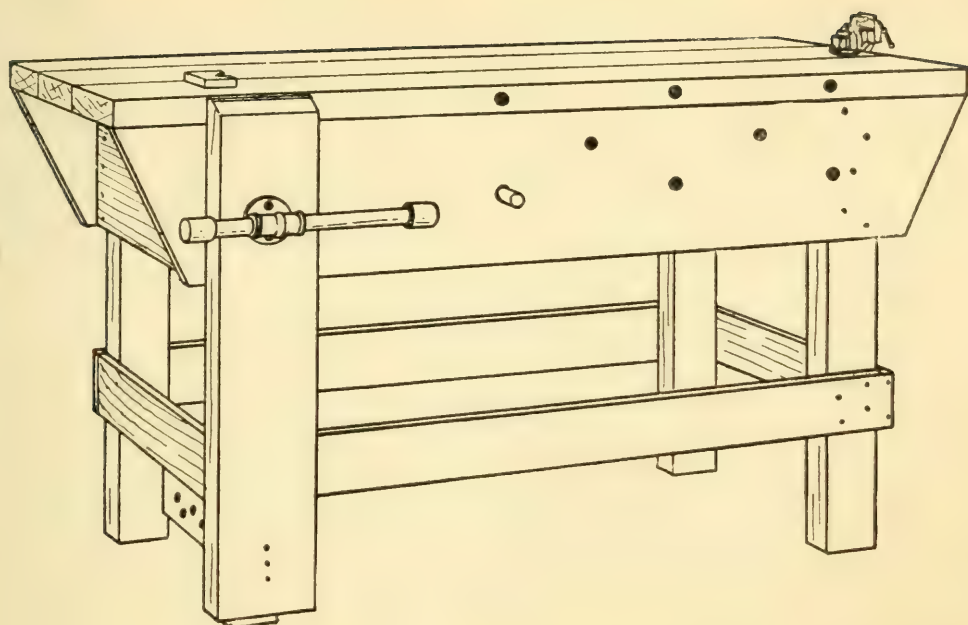

FIG. 1. — A Solid Work Bench.
Figure 1 shows
of any combination of widths that will make up a total of 24 inches, and these pieces should be fastened to cross-pieces *B* with screws. *Counter-sink* the screw-heads. Finish the ends of the bench by fitting pieces of 10-inch board between the aprons, as shown in Fig. 1.
this case it becomes necessary to set the socket into an extra block of wood (Fig. 5) and to spike this block to the back of the leg; otherwise, the jaw would not close entirely. Trim off the top of the jaw even with the bench top and bevel the outer edge (Figs. 1 and 4), then remove the temporary nails. Cut a peg to fit in the holes in the sliding strip, and whenever you use the vise, stick this peg into the proper hole to keep the bottom of the jaw from pushing in farther than the upper portion; the jaw must be kept vertical in order to make it grip a piece of wood squarely.
Bore several rows of  $\frac{3}{4}$ -inch holes through the front apron, as shown in Fig. 1, and cut a peg to fit in them. This peg may be adjusted to support the end of any length of board placed in the vise.
**An Iron Vise** for metal work; one of these can be purchased for from 50 cents to \$1 and may be screwed to the right end of your bench (Figs. 1 and 6).